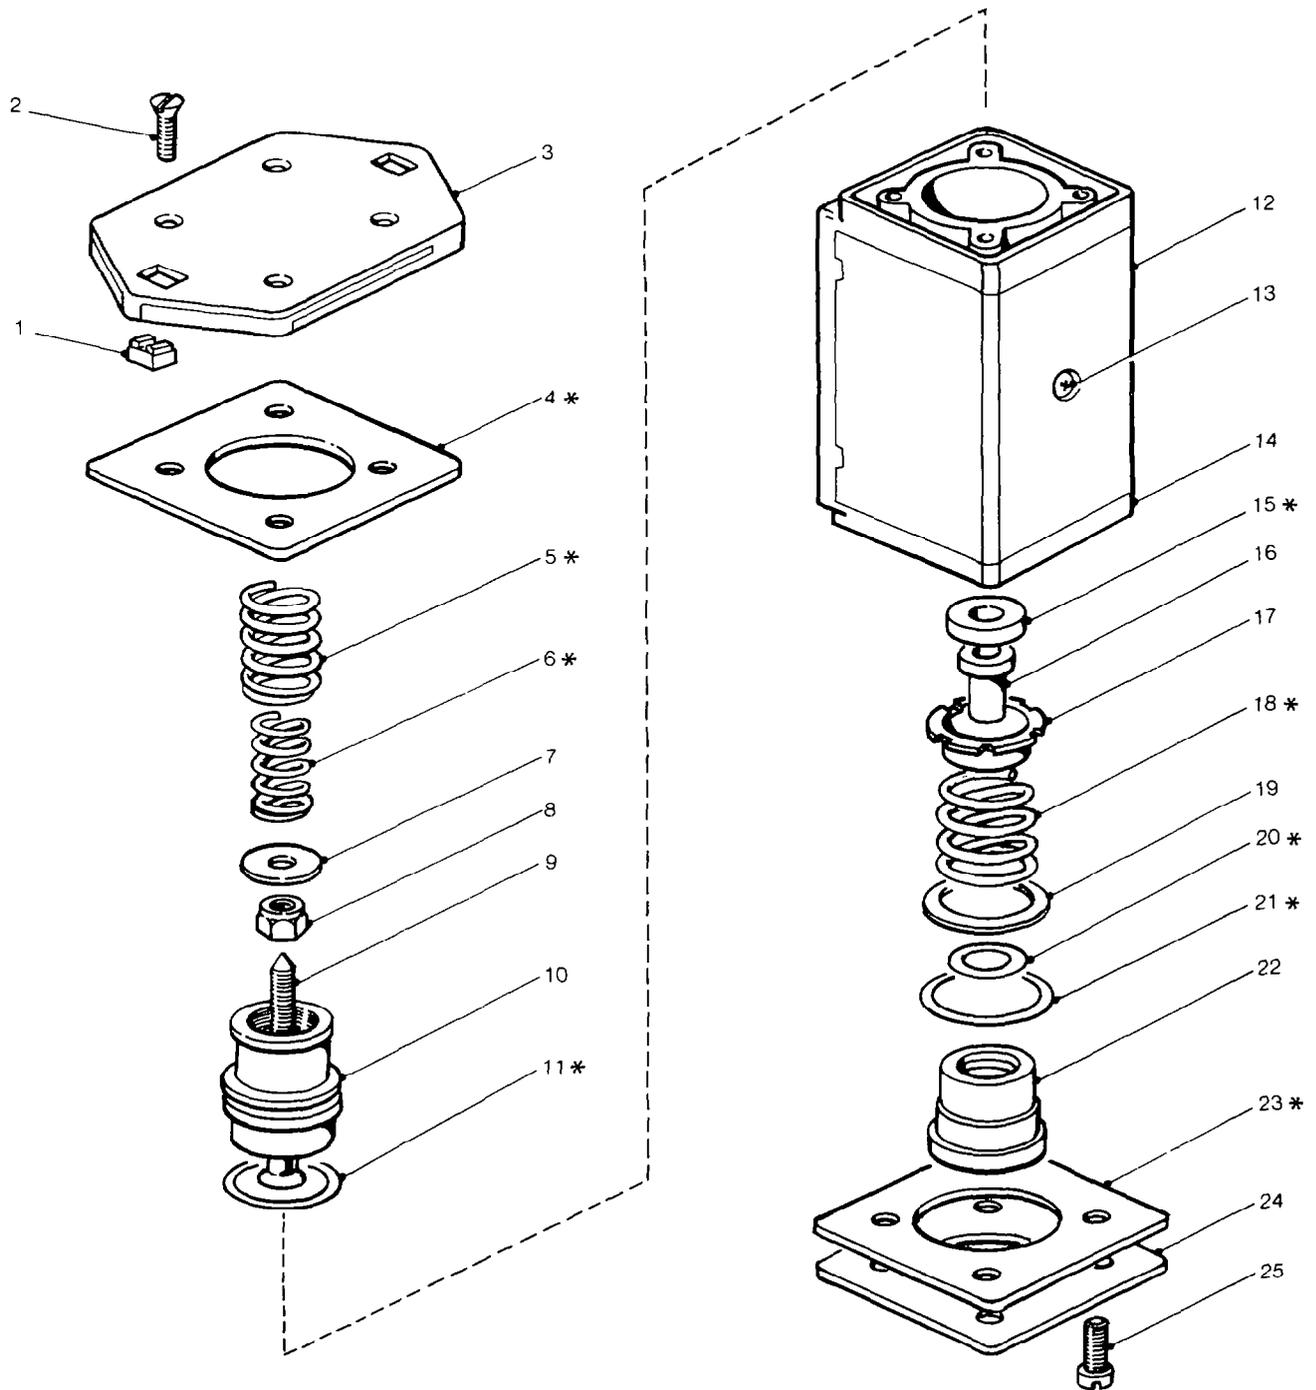

Figure 80 Trailer Brake (Stretch) Valve (Wabco)
90. Dismantling. Dismantle the trailer brake (stretch) valve as follows (see Fig 80):
NOTE All parts marked * in Fig 80 should be replaced.